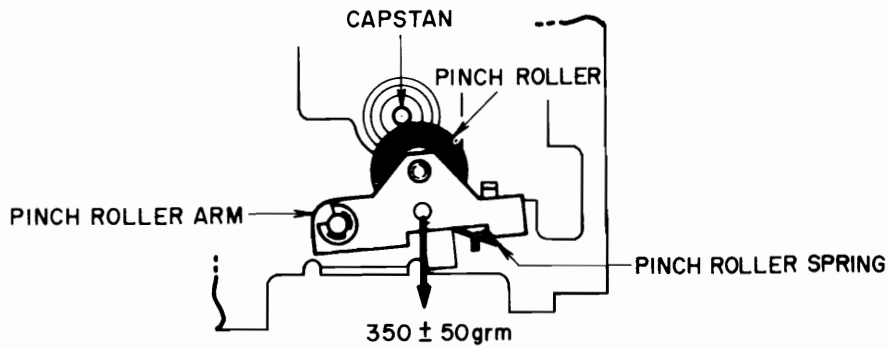

Fig. 5 Pinch Roller Pressure Measurement
3. PINCH ROLLER PRESSURE MEASUREMENT (Refer to Fig. 5)